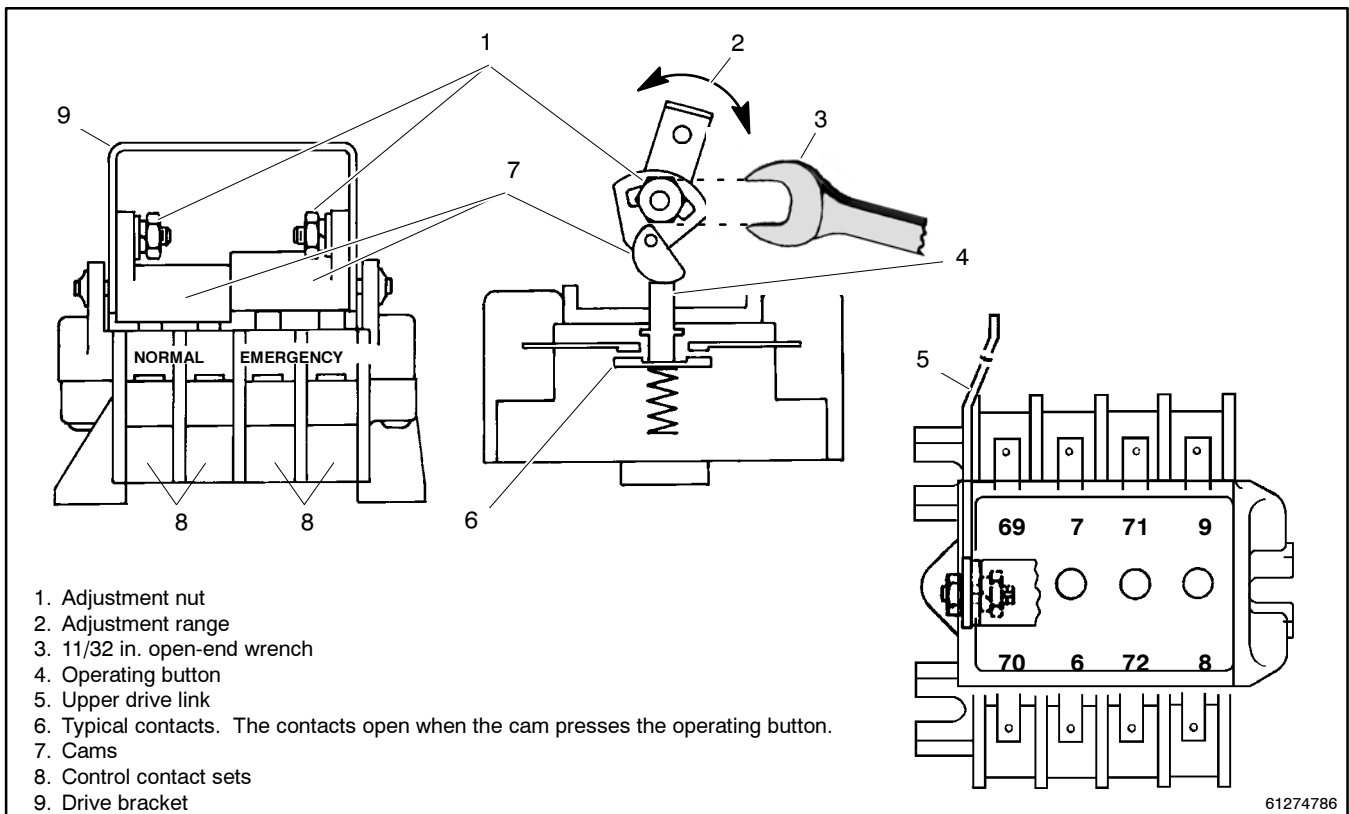

Figure 6-9 TS Control Contact Arrangement (transfer switch is in the normal position)
- a. Refer to Figure 6-9. Two sets of contacts interrupt the control current to the solenoid operator coil (TS) in each direction (transfer to emergency and retransfer to normal). In Figure 6-9, the transfer switch is in the normal position and the coil control contacts for the emergency side are closed, ready to allow current to flow to the TS coil to transfer to the emergency source if the controller signals for transfer.